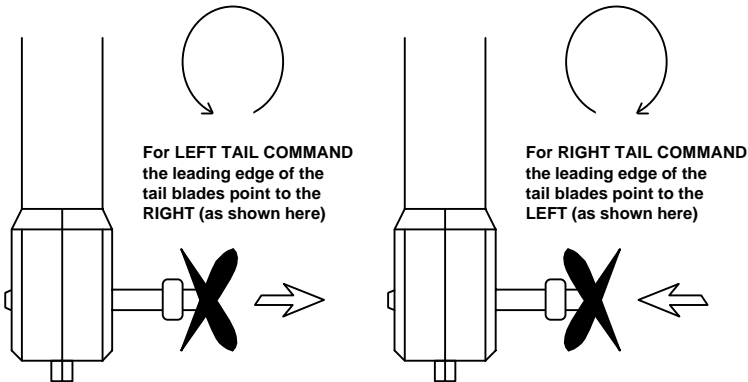

Figure 3
- ◆ The correct operating sense can be established by looking at the tail rotor blades. With a left tail rotor command held on, the leading edge of the tail blades are pointing to the right (see Figure 3)